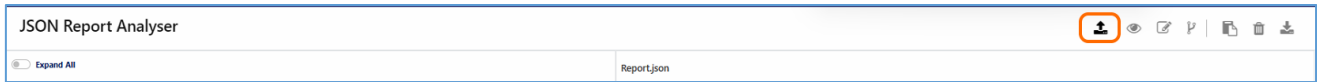

FIGURE 8.80: UPLOAD JSON REPORT ICON
1. Click on the Upload icon  at the top right of the *JSON Report Analyzer* screen as shown in Figure 8.80 below.